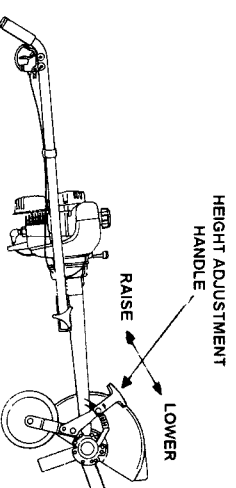

FIG. 15
5. If blade is not deep enough, or is digging too deep, adjust blade height Fig. 15, or slightly raise or lower handles to suit depth required Fig. 16. However it is always more comfortable and relaxed to have arms fully extended downwards.